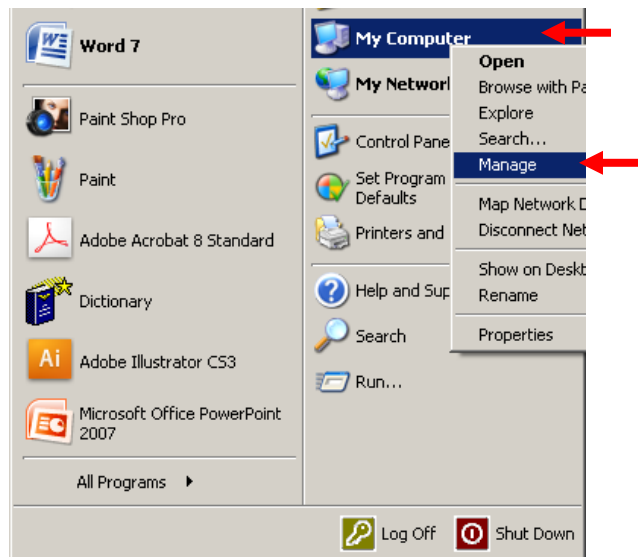

Figure 4
1. From the **Start Menu** right-click My Computer; the menu in Figure 4 displays.